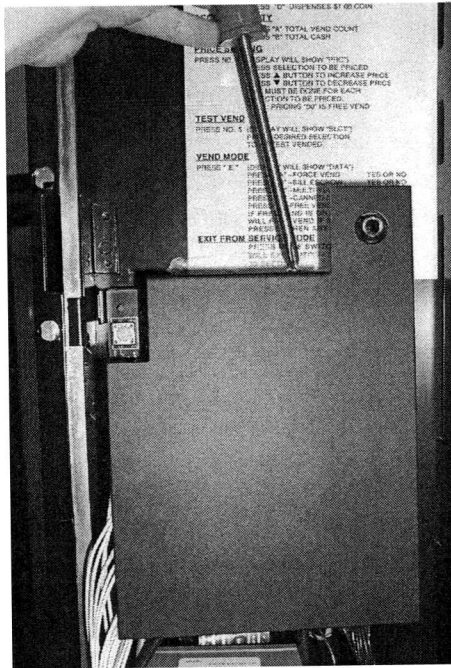

Figure 7.
7. The last connection to be made will be the DEX connection. This cable is mounted on the front cover. The other end of this cable will plug into J5 of the control board. After you plug this cable in, you may mount the cover. Line the hole on the top of the cover with the hole on the bracket above the control board. Using the 08-0832-00 screw included in the kit, screw the cover in place. Refer to Figure 7 for cover's orientation.